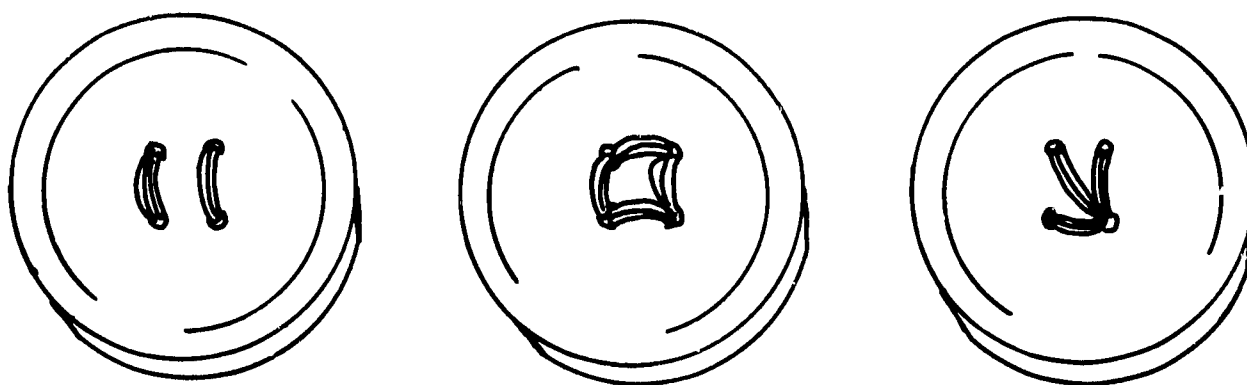

Figure 93.
2. For four hole buttons, a variety of patterns may be used as shown in Figure 93.